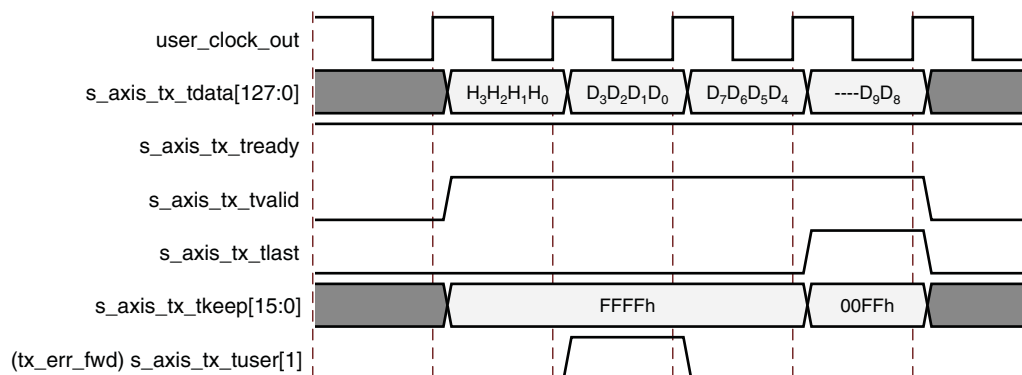

Figure 3-39: Packet Data Poisoning on the Transmit Interface
- Assert `s_axis_tx_tuser[1]` (`tx_err_fwd`) for at least one valid data transfer cycle any time during the packet transmission, as shown in Figure 3-39. This causes the core to set EP = 1 in the TLP header when it transmits the packet onto the PCI Express fabric. This mechanism can be used if the user application does not know whether a packet could be poisoned at the start of packet transmission. Use of `tx_err_fwd` is not supported for packets when `s_axis_tx_tuser[2]` (`tx_str`) is asserted (streamed transmit packets). In streaming mode, you can optionally discontinue the packet if it becomes corrupted. See Discontinuing Transmission of Transaction by Source, page 52 for details on discontinuing packets.